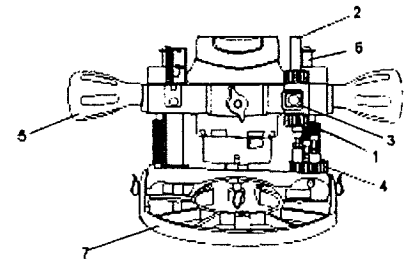

Fig. 16
1. Raise plunge router depth stop rod by turning the lower depth stop lock nut (1) counter clockwise until it is positioned at the bottom of the depth stop rod (2) (see Fig. 16). Push depth stop quick release button (3) and raise the depth stop rod to its maximum height and then release the button.
2. Rotate plunge action turret (4) until the shortest stop screw is under the depth stop rod (2).
3. Loosen both height adjusting knobs (5) by turning them counter clockwise.